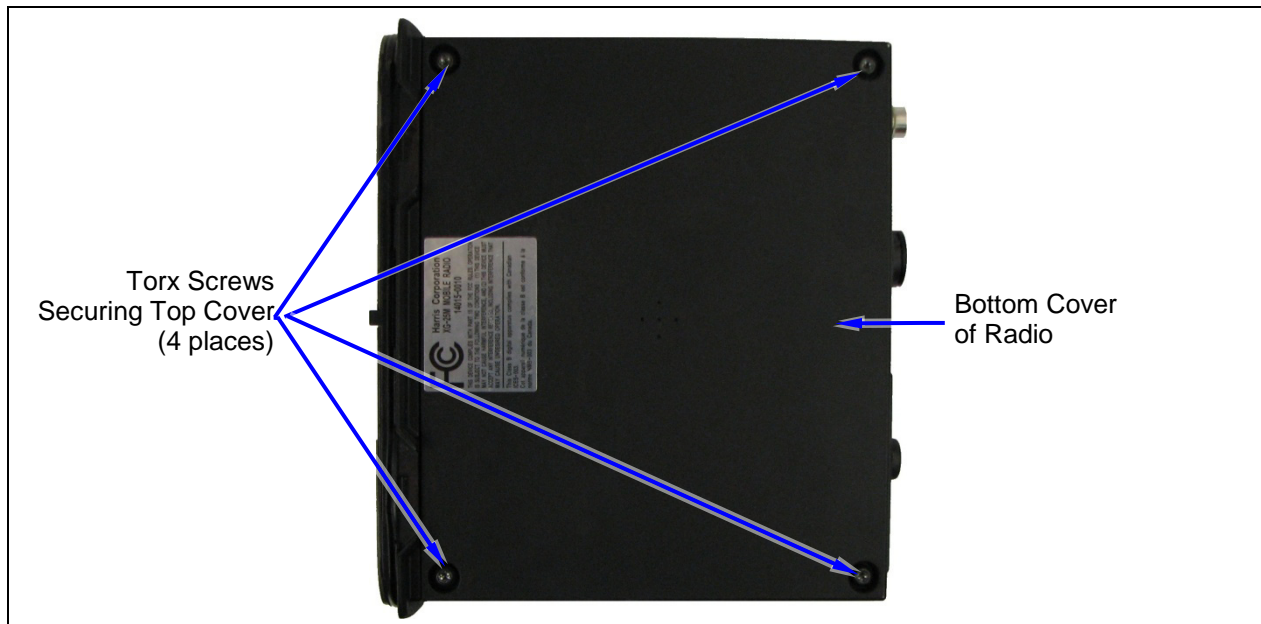

Figure 14-3: Removing the Main Board (Bottom Cover Removal)
3. Using a T15 Torx screwdriver, loosen and remove the four (4) screws securing the bottom cover to the radio. See Figure 14-3.